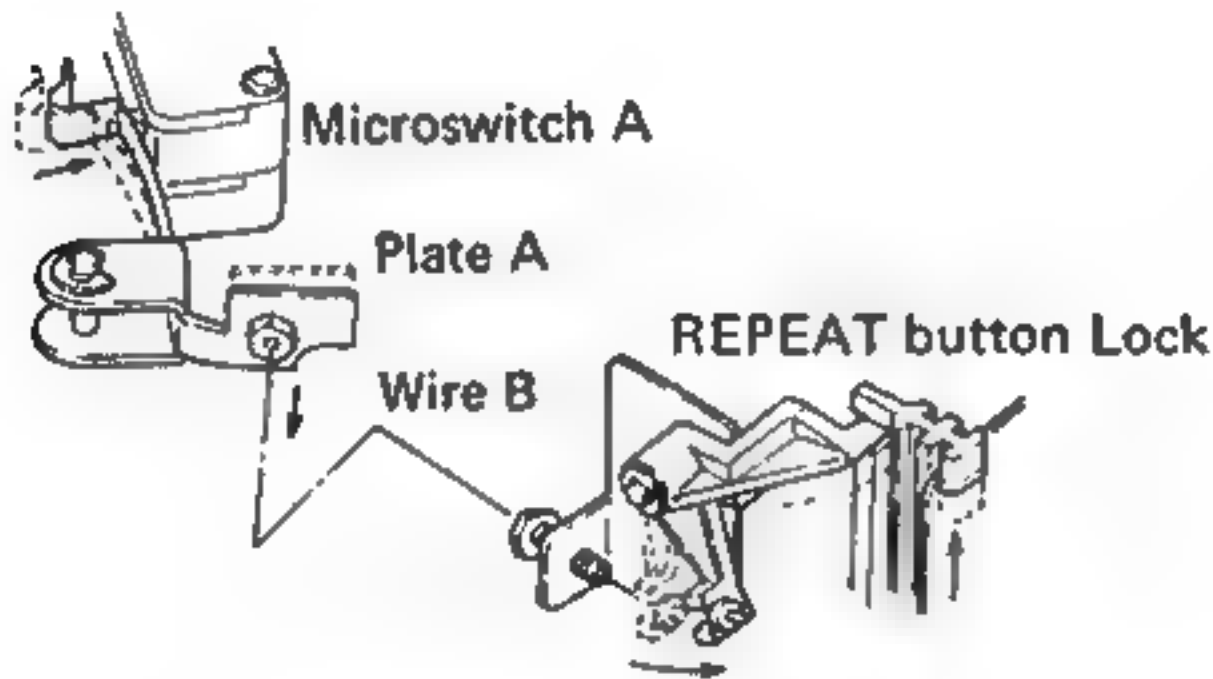

Fig. 14
1. When REPEAT button is locked, wire B pulls plate A, locking microswitch A in the ON position (Fig. 14).